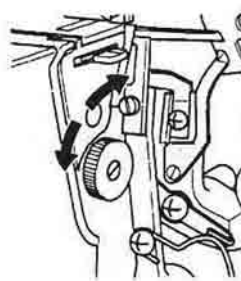
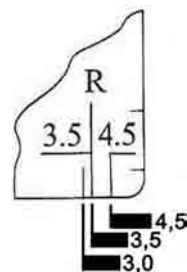

Fig. 38
Fig. 39
- Turn the seam width adjustment knob 24 to the desired seam width (Fig. 38). Orientate yourself on the scale on the stitch plate 13 (Fig. 39).